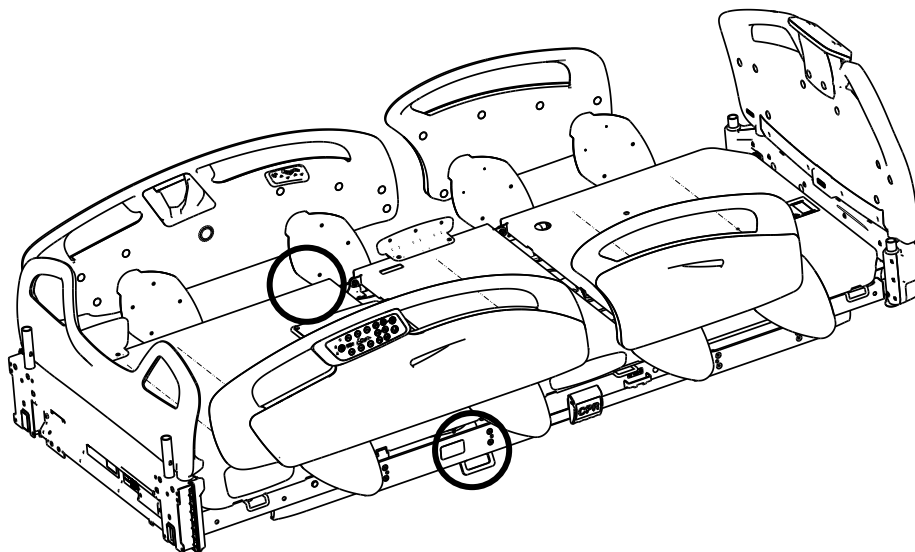

Figure 21 – Roll belt bracket locations
1. Thread the roll belt through the bracket slot (Figure 21).